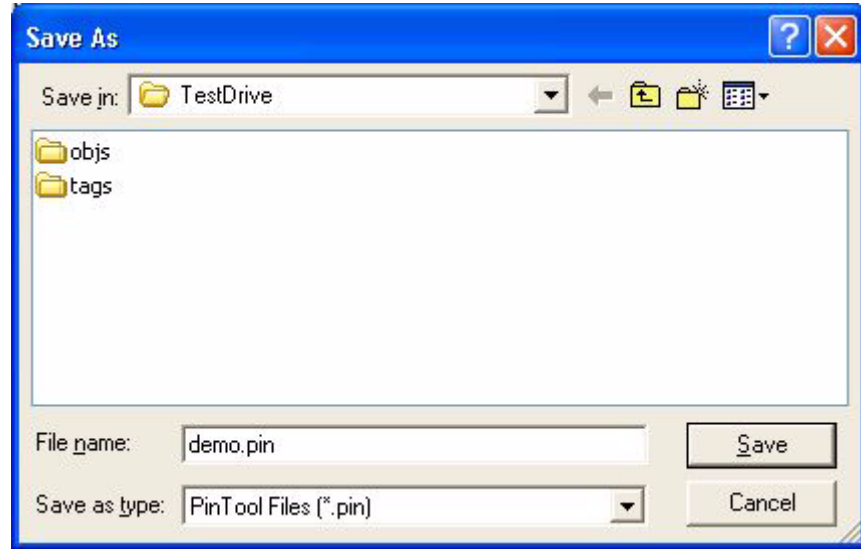

Figure 3-47. Pin Tool Save As Dialog Box
- 12 This completes the definition of the pin groups that can be used in your test program `.C` and `.APG` files to compile. Selecting the `File > Save As` command displays the Save As dialog box (similar to Figure 3-47).